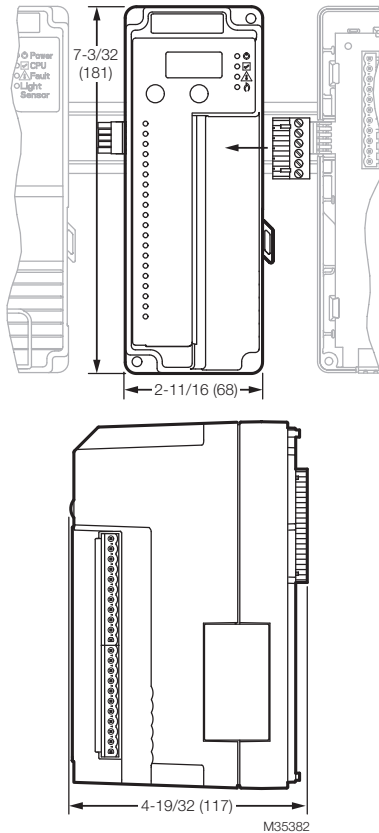

Fig. 1. Mounting dimensions of UV Shutter-Check Flame Amplifier in in. (mm).
**Dimensions:** Refer to Fig. 1.